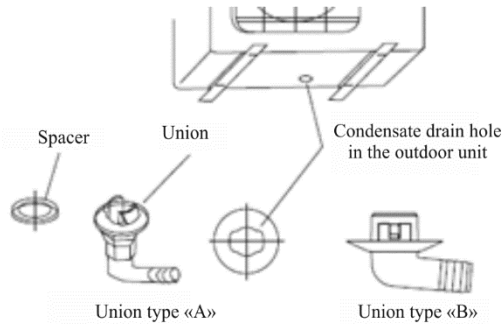

Fig. 8
- After fixing the unit, install the condensate drain pipe from the outdoor unit. The fitting option (A or B) depends on the scope of delivery and the model of the outdoor unit (Fig. 8).